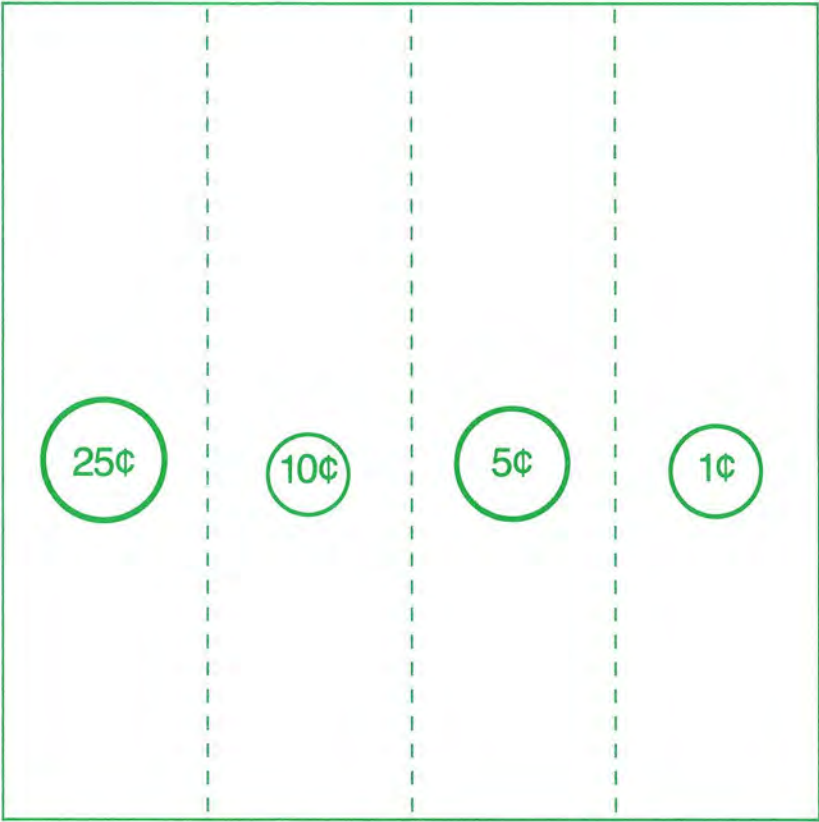

Fig. 5. Overlay For Making Change Program
- Use a marking pen to divide the overlay into four equal vertical columns. See Figure 5.